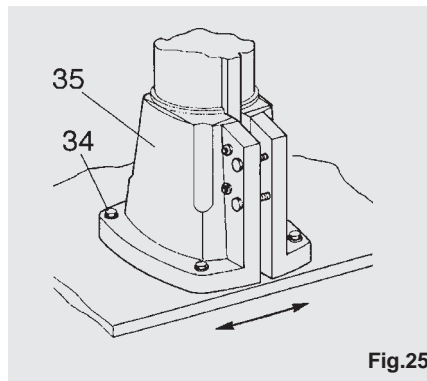

Fig.25
If the defect cannot be eliminated with the adjusting screws, loosen screws (34) (see figure 25) of base (35) and turn it slightly.